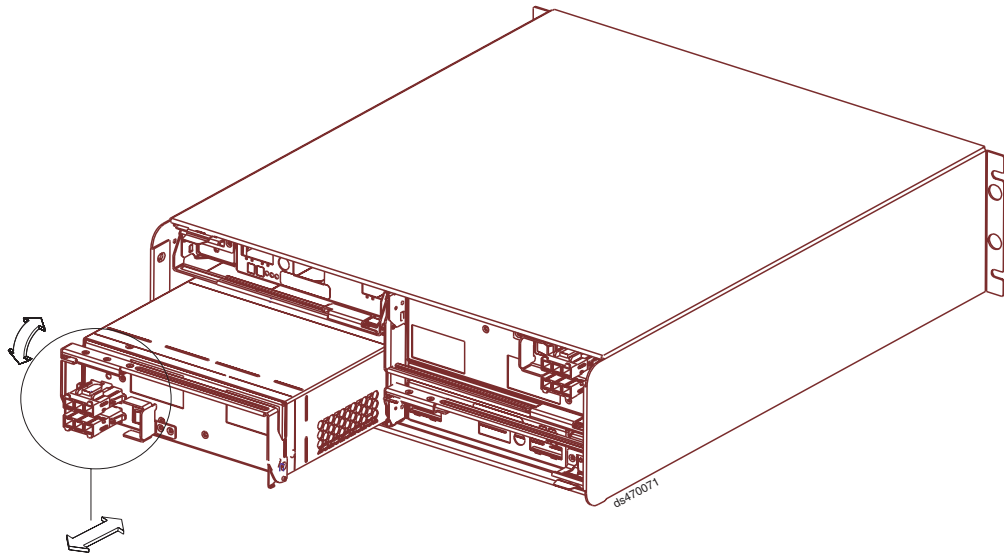

Figure 114. Replacing a DC power supply and fan unit
11. Slowly pull the lever away from the chassis to remove the DC power supply and fan unit, as shown in Figure 114 on page 172.